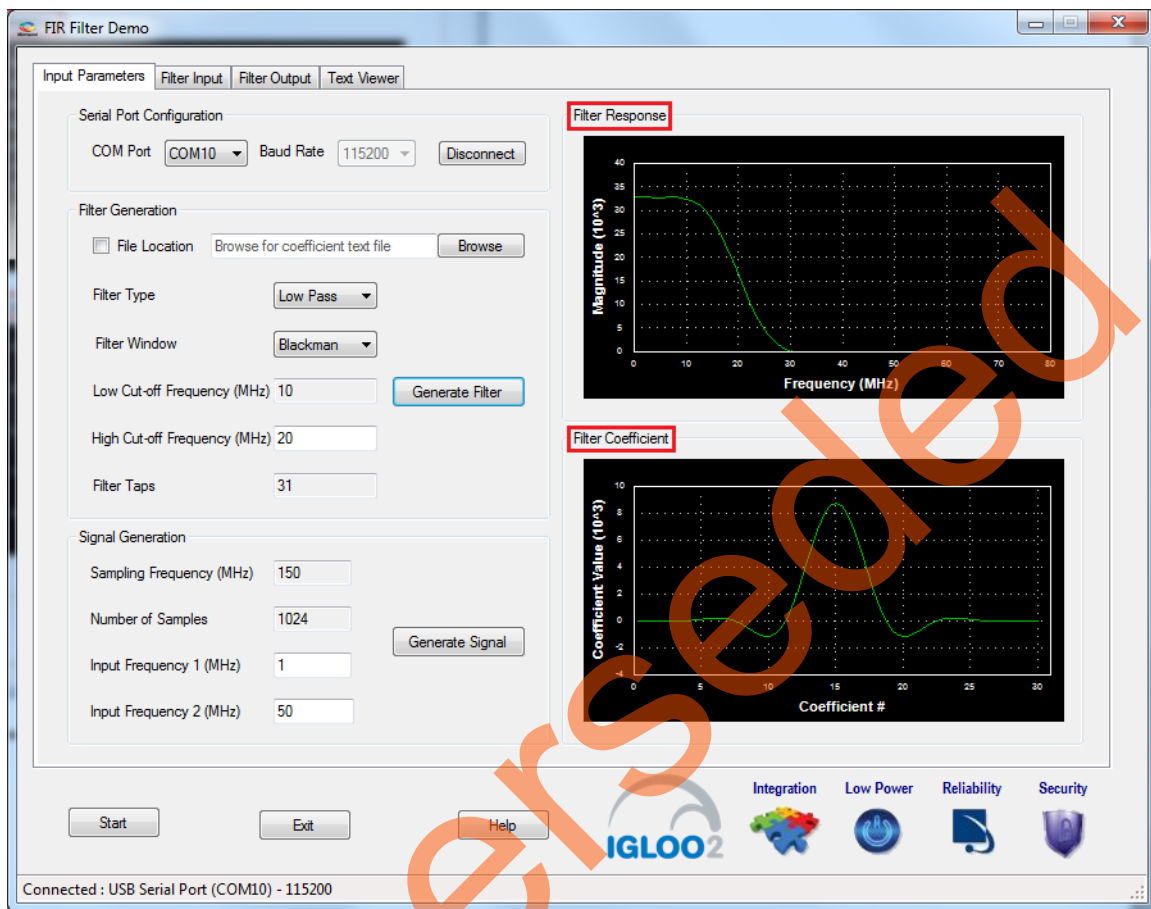

Figure 13 • Filter Response and Filter Coefficient Plot
- The successful after-generation graphs of the filter coefficients, filter response, and the filter coefficient plots, are displayed. Refer to Figure 13.